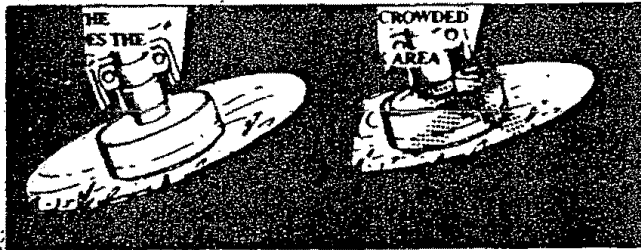

Figure 15
- The tip of the line does the cutting. You will achieve the best performance and minimum line wear by not crowding the line into the cutting area. The right and wrong ways are shown in Figure 15.